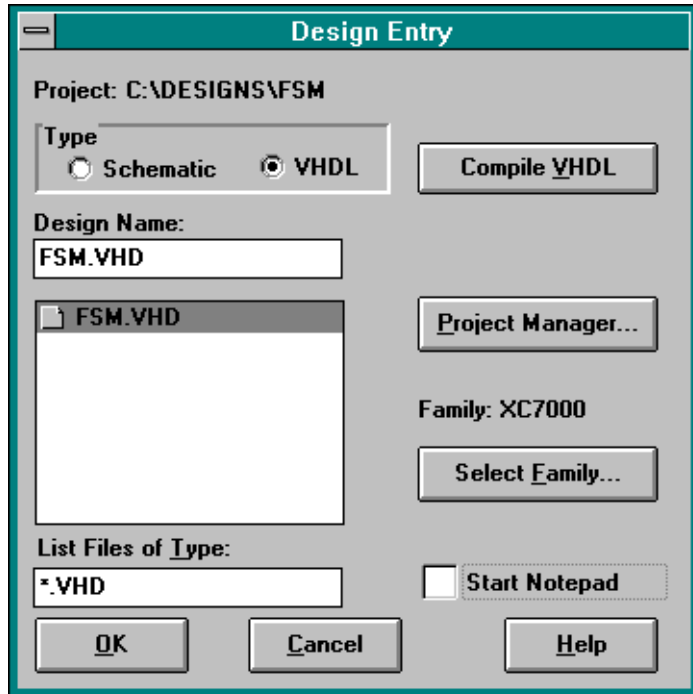

Figure 2-9 Design Entry Dialog Box After Changes
11. After you close the project manager, the dialog box shown in Figure 2-9 prompts you to select a device family: